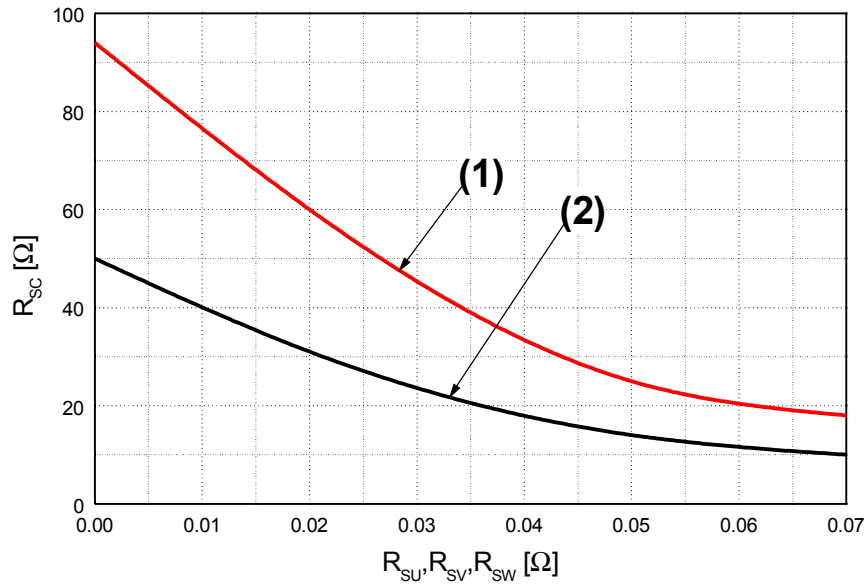

Fig. 7. R_{sc} Variation by change of Shunt Resistors (R_{SU}, R_{SV}, R_{SW}) for Short-Circuit Protection
- Short-circuit current protection is functioning only at the low-sides. It would be recommended that the value of the external sensing resistor (R_{SC}) should be selected around 50 Ω in order to make the SC trip-level of about 30A at the shunt resistors (R_{SU}, R_{SV}, R_{SW}) of 0Ω. For the detailed information about the relationship between the external sensing resistor (R_{SC}) and the shunt resistors (R_{SU}, R_{SV}, R_{SW}), please see Fig. 7.